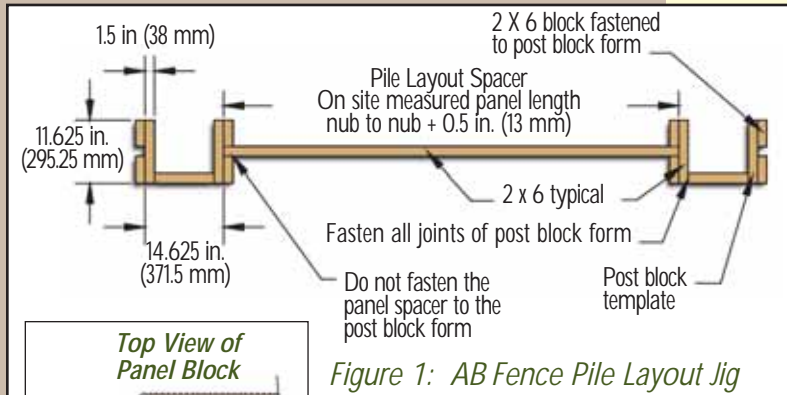
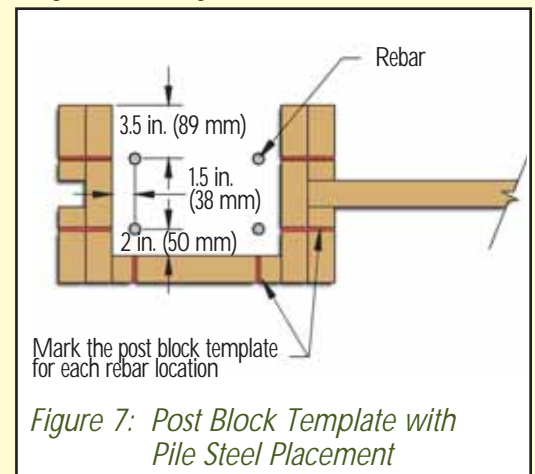

Figure 1: AB Fence Pile Layout Jig
Figure 7: Post Block Template with Pile Steel Placement
The pile layout jig (Figure 1) is used after the piles are poured, but not quite hardened to set the location of the post blocks on the piles and ensure that the exact relative spacing between each AB Fence post is set. This will also indicate precisely where the rebar needs to be placed in the piles (Figure 7).
To ensure an accurate pile layout spacer, line up the number of panel blocks you are using on a flat surface and measure the actual panel length nub to nub. Use this field-measured length to assist in pile spacing and in constructing the spacers in Figure 1 and 2.
Using 2 x 6's construct two post block templates as shown in Figure 7. After measuring the exact panel length, nub to nub, cut a 2 x 6 to this length plus a 0.5 in (13 mm) extra. This will be used between the post block templates to create the pile layout spacer shown in Figure 1.
- To set the exact spacing between each AB Fence post, use the AB Fence Pile Layout Jig shown in Figure 1.
- Mark the placement of the rebar in the pile, using the Post Block Template similar to Figure 7 during the pile pour. For more information see the construction detail on page 26.
- Immediately following the concrete pour, relocate the center of the AB Fence post using the AB Fence Pile Layout Jig, shown in *Figure 1*, and make an impression in the wet concrete to mark it.
- Place the vertical steel reinforcement bar (rebar) using the placement template shown in *Figure 7*. Pay close attention to make sure that the center of the template is at the center of the AB Fence post and square to the adjacent AB Fence post. This can be done using offsets and string lines.